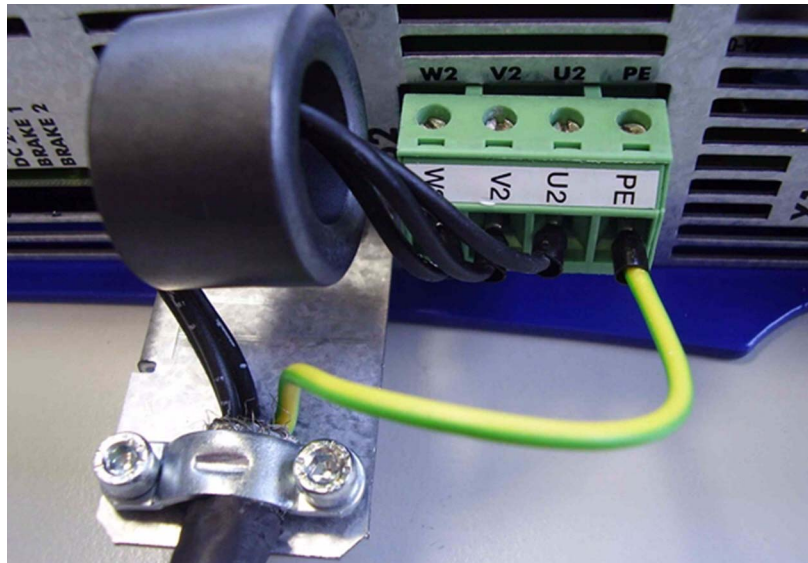

Fig.: 3: Shielding of screw terminals in conformity with the EMC standards
- It is important that shield and strain relief are highly conductive and directly connected to a grounded surface with the greatest possible surface area. When doing so, grounding must be implemented in a way that the unshielded portion of the cable is as short as possible (refer to fig. 3).
We recommend installing the enclosed ferrite core on the motor power supply cable as shown in figure 3.
-  Fix the cable strap serving as strain relief and motor cable shield next to connector X62 (see fig. 3, page 22).
- Connect the motor lines according to fig. 3, page 22.